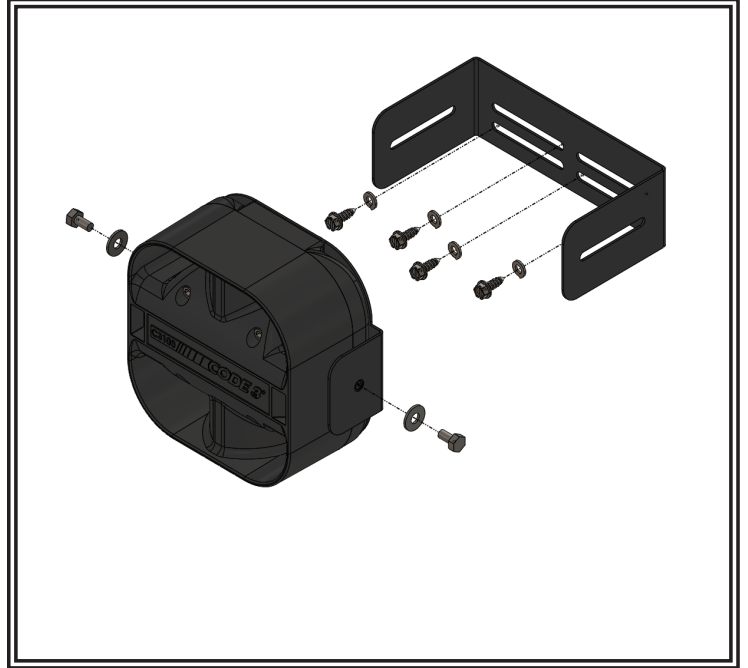
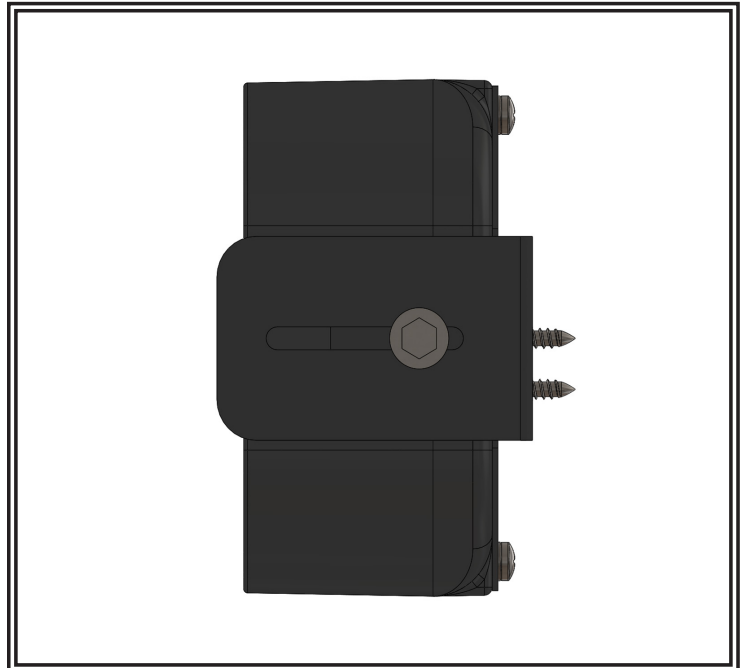

Figure 2
Figure 4
Step 2. Mount the speaker bail bracket to the vehicle in the desired position as shown in Figure 2 or 3 using the supplied hardware. Drill 3/16" holes using the bail bracket as a template. Ensure the bail bracket is secured using the four(4) supplied screws.
Note: If mounting speaker assembly in a horizontal configuration as shown in Figure 2 ensure the speaker is mounted to the rear of the mounting slots as shown in Figure 4.